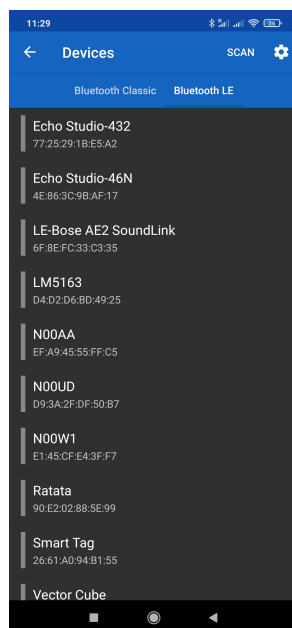

Figure 10.2: Scanned Device List
29. Now, click on the **SCAN** button. You will see lots of other devices as shown in Figure 10.2.